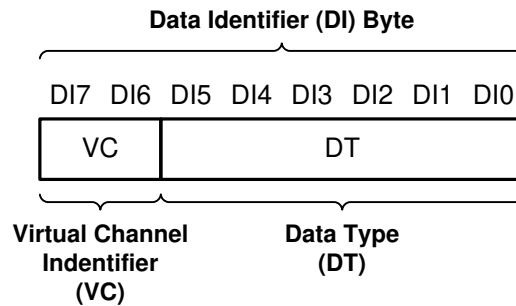

图 7-11. CSI-2 Data Identifier Structure
The TDES954 MIPI CSI-2 protocol interface transmits the data identifier byte containing the values for the virtual channel ID (VC) and data type (DT) for the application specific payload data, as shown in 图 7-11. The virtual channel ID is contained in the 2 MSBs of the data identifier byte and identify the data as directed to one of four virtual channels. The value of the data type is contained in the six LSBs of the data identifier byte. When partnered with a TSER953 serializer, the Data Type is passed through from the received CSI-2 packets. When partnered with a DVP Mode serializer, the received RAW mode data is converted to CSI-2 Tx packets with assigned data type and virtual channel ID and matches what is sent by the video source.